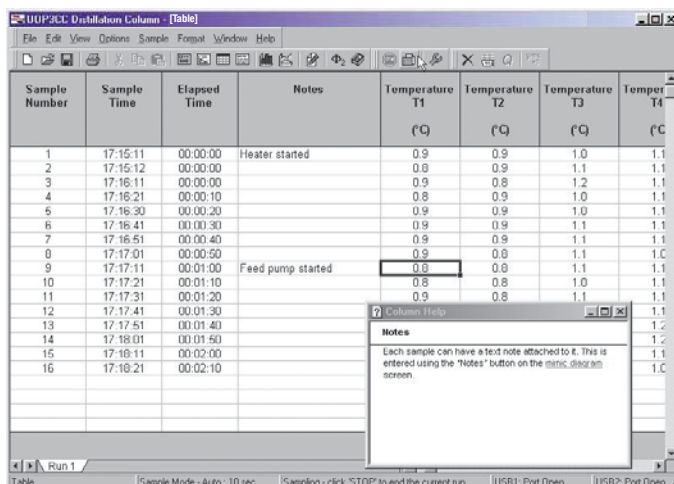

Fig. 9: Typical results displayed in tabular format
- setting up data logging and subsequent analyses of captured data including use of spreadsheets (Fig. 9)